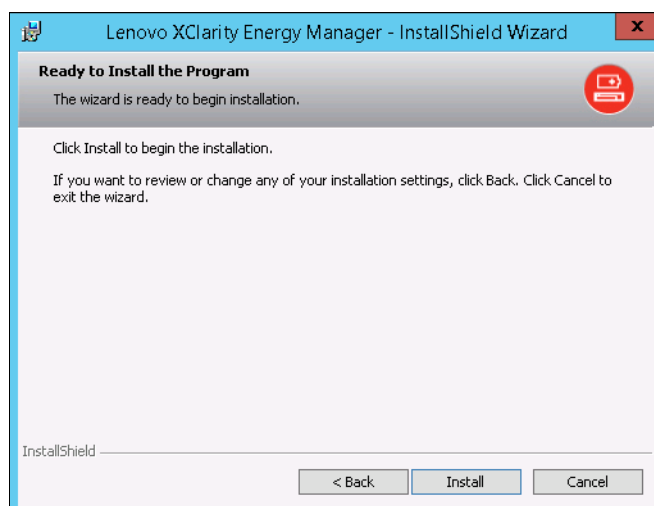

Figure 7-33 Begin installation
12. If changes to any settings are needed, click the **Back** button to make the changes now. Otherwise, to begin the installation, click **Install** as shown in Figure 7-33.